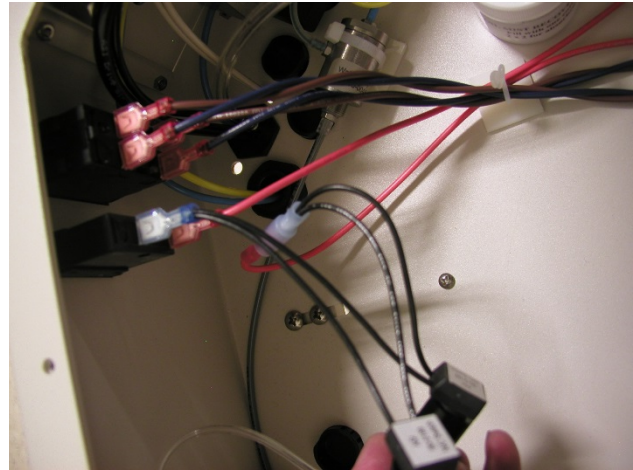

Fig. 2
7. Remove orange wire from switch. Cut off receptacle, strip outer coating and crimp on bullet connector in the air/electric switch assembly. (Fig. 2)
8. Attach the orange wire from the air/electric switch assembly with receptacle to switch. (Fig. 2)